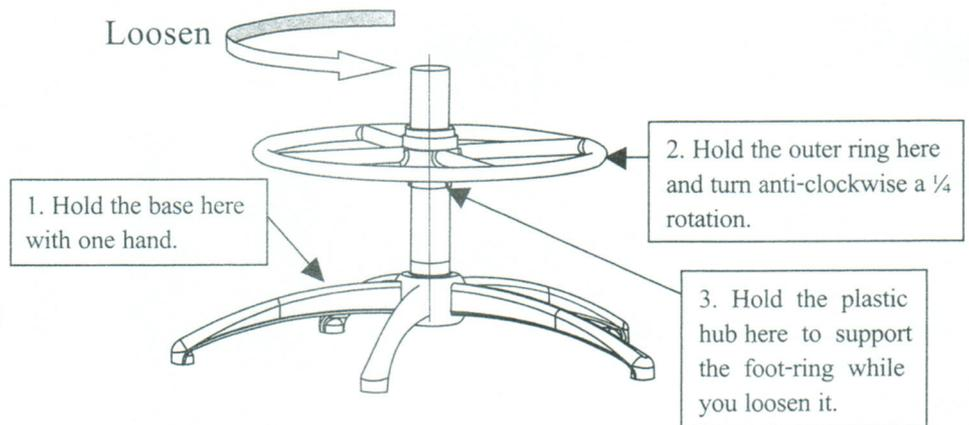

Fig. 5
3. Height Adjustment - Hold the base with one hand and turn the foot-ring anti-clockwise approx. a 1/4 rotation just to loosen. Hold the bottom of the plastic hub with one hand and the outer ring with the other and continue to turn anti-clockwise until the foot-ring is released and can move freely up and down the gas cylinder. (Refer to Fig.5)